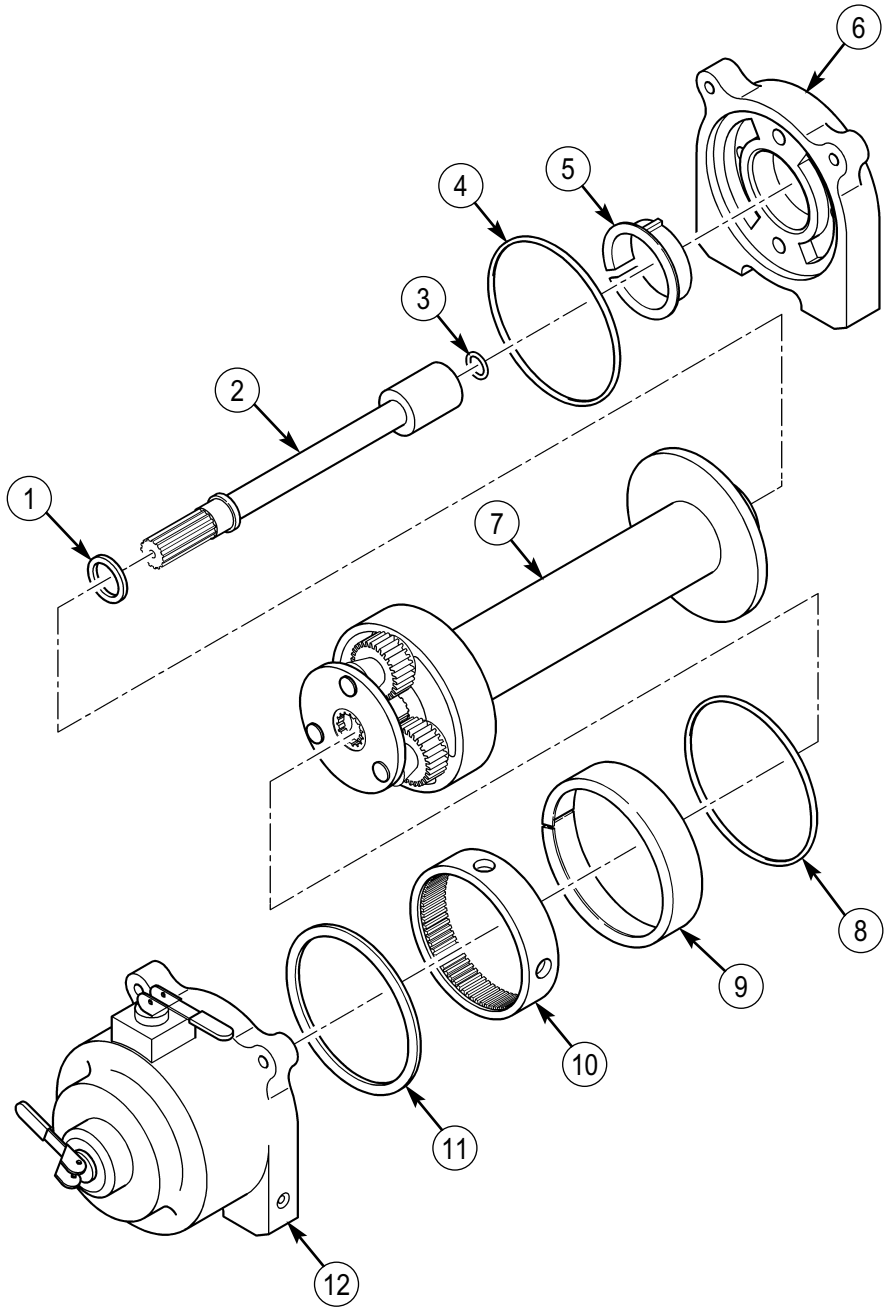

Figure 6
14. Remove motor end support (6), drum bushing (5), and O-ring (4) from drum (7) as shown in figure 6.
15. Remove gearbox housing (12) and O-ring (8) from drum (7) as shown in figure 6. Discard O-ring (8).
16. Remove driveshaft (2), driveshaft thrust washer (1), and driveshaft O-ring (3) from drum (7) as shown in figure 6. Discard O-ring (3).
17. Remove drum drive bushing (9), ring gear (10), and ring gear thrust washer (11) from gearbox housing (12) as shown in figure 6.